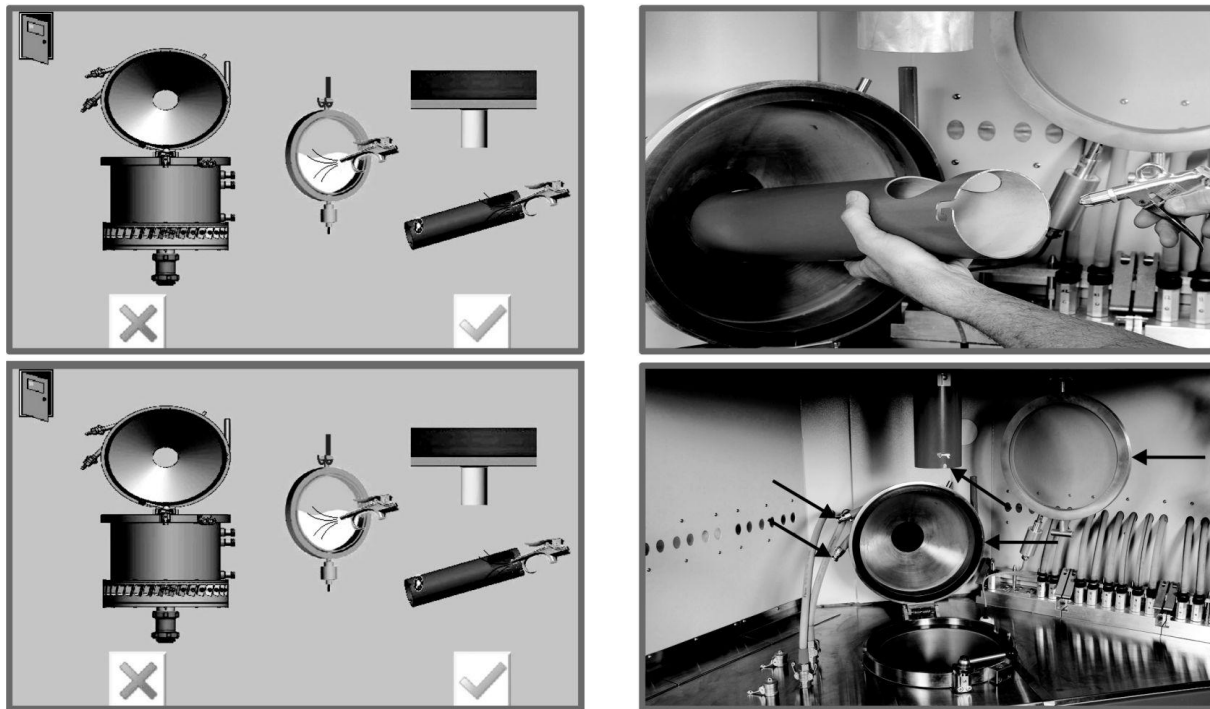

Figure 4-14 Clean Critical Points on the Feed Center
See Figure 4-14.
4. Blow off all critical points (noted in Figure 4-14).